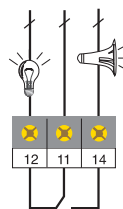

Figure 6 Function monitor installation
6. (VAL-MS-AR.../FM only) Connect monitoring circuit to green connector according to Figure 6. Strip 0.28 in. (7 mm) of insulation from each conductor before inserting into the appropriate position. Tighten wire clamp screws to 2 - 4 lb_f-in. (0.25 Nm).